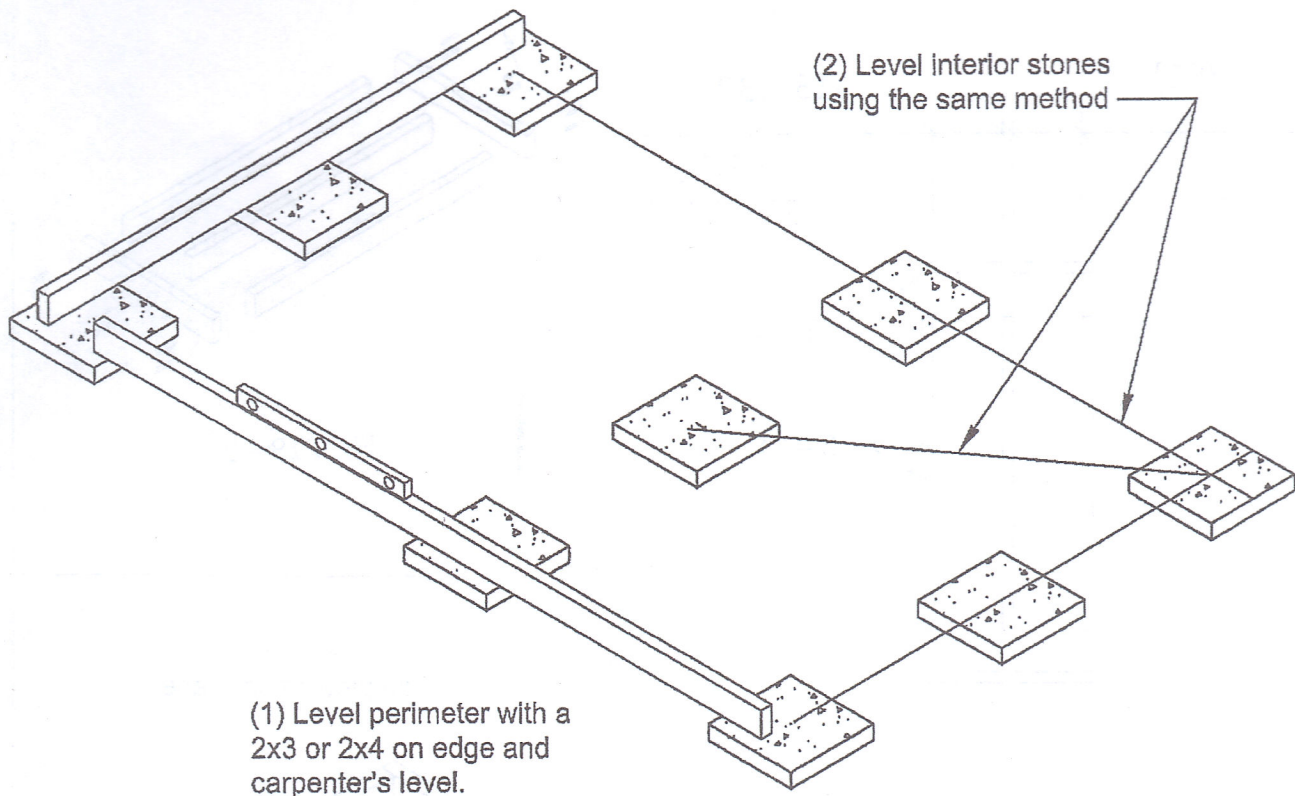

Fig. 1
1. Use a 2x3 or 2x4 straight piece of lumber on edge and a carpenter's level to level the perimeter patio stones. Add or remove soil under each stone until it is flush with the bottom of the 2x4 as shown in Fig. 1. Continue this procedure with the stones until you are satisfied all the stones are level with one another.